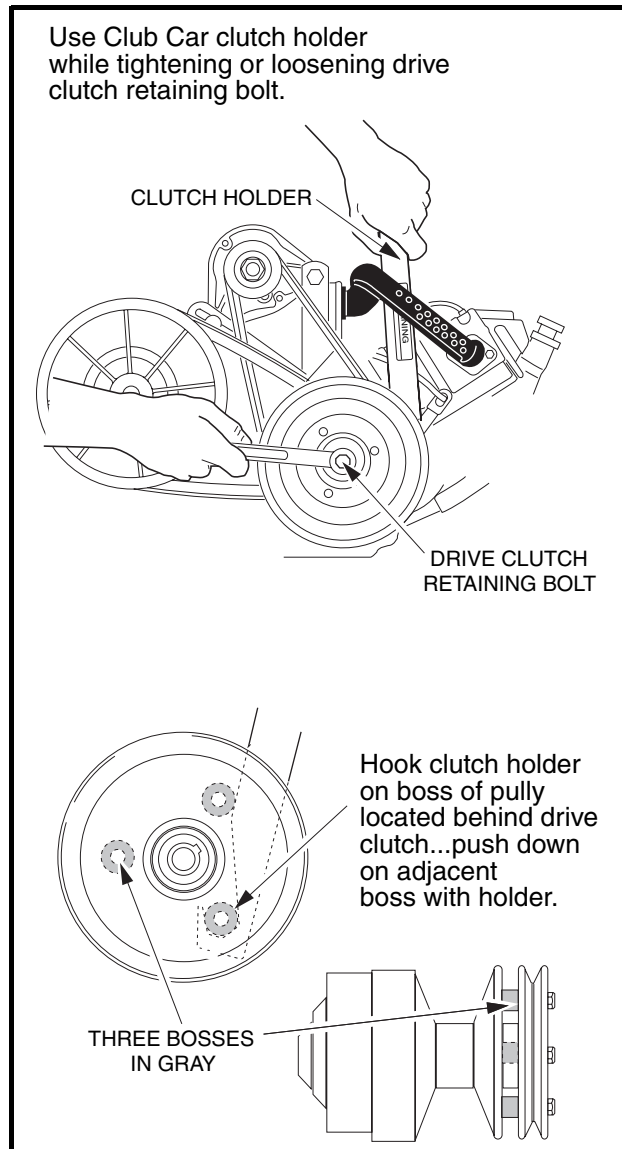
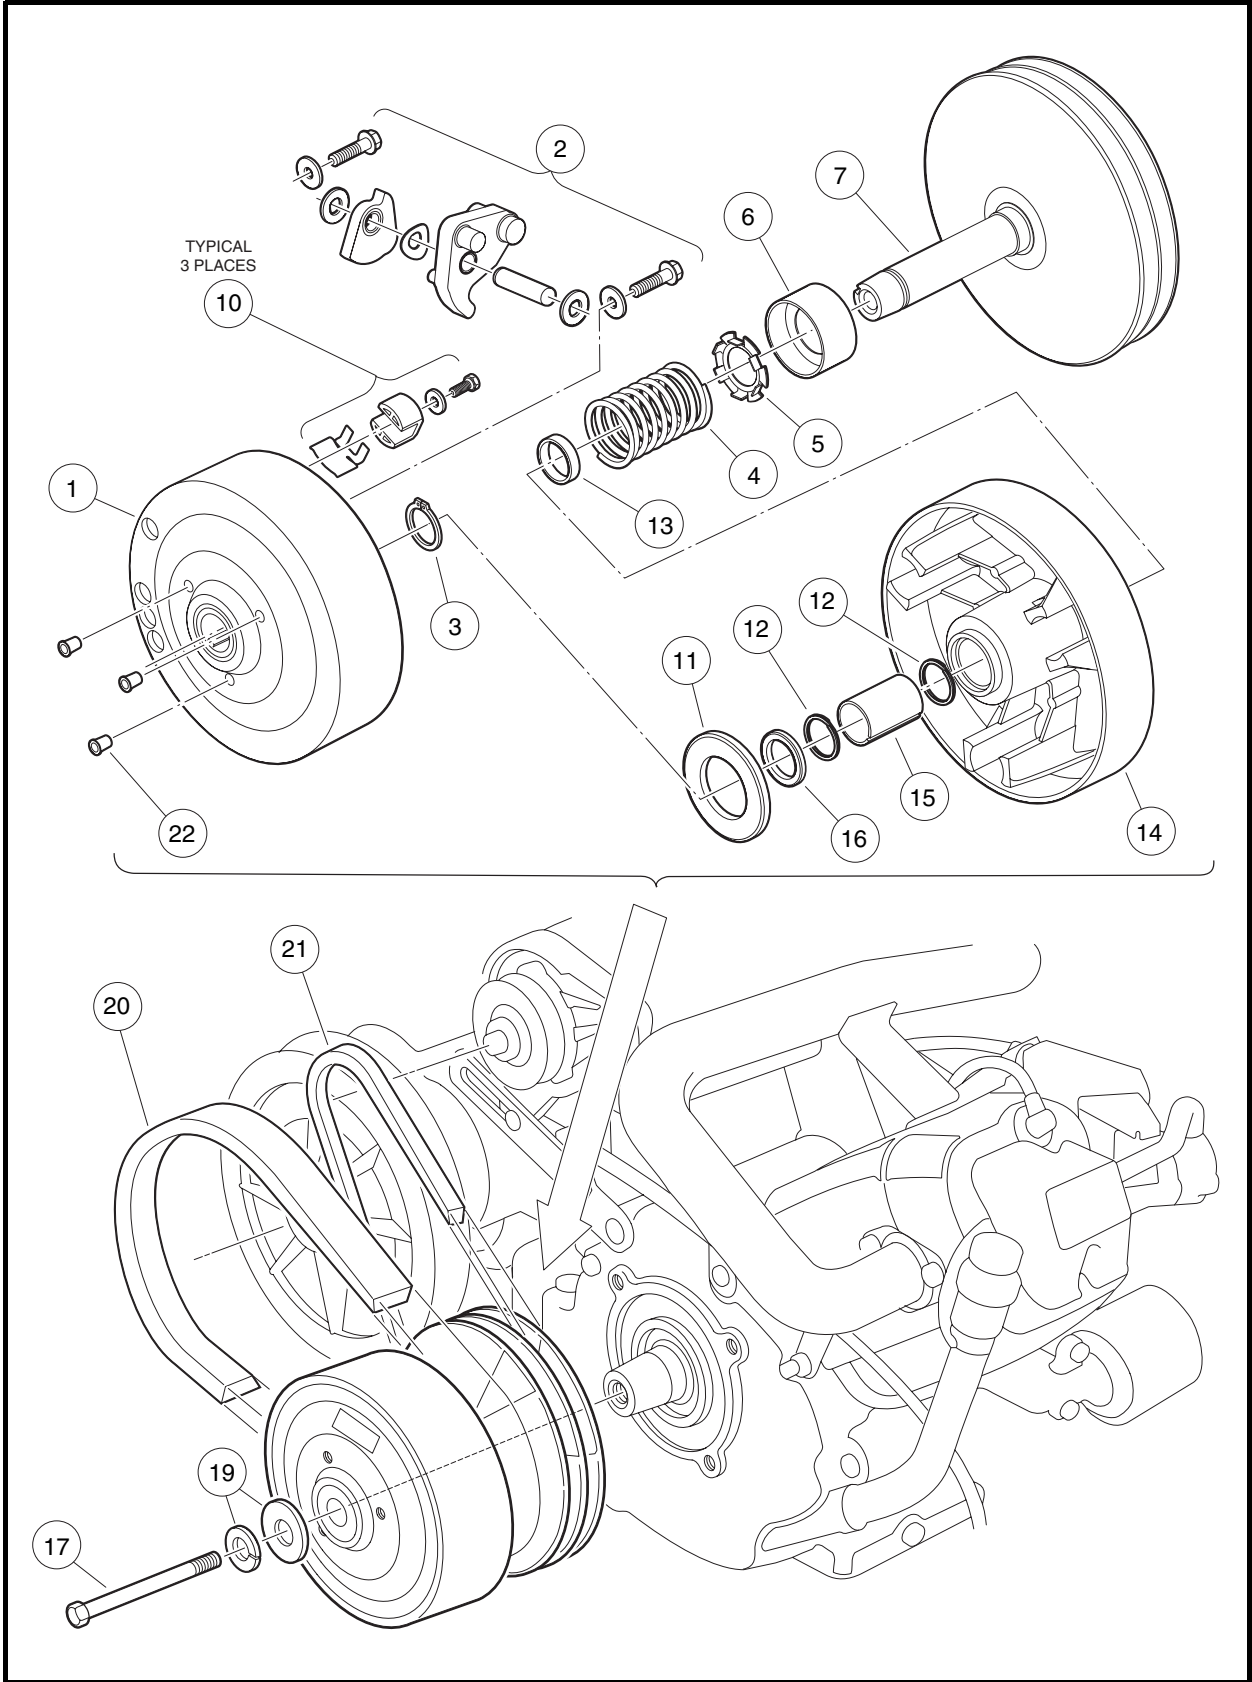
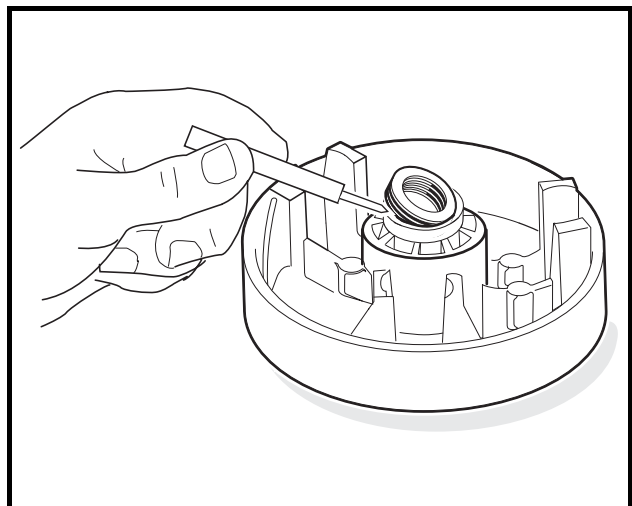

Figure 17-3 Loosen Retaining Bolt
Figure 17-5 Drive Clutch Assembly
Figure 17-13 Spiral Back-up Rings
3. If cleaning the driven clutch does not solve the problem, disassemble and thoroughly clean all parts of the drive clutch. Be sure to clean the plastic drive buttons (10) (**Figure 17-5, Page 17-6**).
4. Remove the drive clutch retaining bolts (17) and mounting washers (19) (Figure 17-5, Page 17-6) See also Figure 17-3, Page 17-4. See following NOTE.
- Use only a dry cloth to lightly wipe the shaft of the fixed face assembly (7) (Figure 17-5, Page 17-6). Do not use a brush or steel wool. These will damage the surface of the shaft.
2. Remove the drive clutch hub (1) (Figure 17-5, Page 17-6):
- 2.1. Remove the three plugs (22) from the clutch puller attachment holes (Figure 17-5, Page 17-6).
3. Remove the thrust washer (11) from the moveable face (14) (Figure 17-5, Page 17-6).
6. Remove the retaining ring (3) from the shaft of the fixed face assembly (7) and slide the moveable face (14) off the shaft (**Figure 17-5, Page 17-6**). See following NOTE.
NOTE: If the moveable face is removed from the hub of the fixed face, the spiral back-up rings (12) must be replaced with new ones (**Figure 17-5, Page 17-6**).
7. Remove the spacer (16), and spring (4) and retainer (5). The spring retainer can be removed from the spring if necessary (**Figure 17-5, Page 17-6**).
9. Use a scribe or small pick to remove the spiral backup rings (12) from each end of the bore in the fixed face assembly (**Figure 17-5, Page 17-6**). See also **Figure 17-13, Page 17-9**. Discard the rings.
1. Inspect the idler bearing (6) for smooth rotation or seal damage (**Figure 17-5, Page 17-6**). See following NOTE.
2. Inspect the bore of the moveable face assembly (14) for scarring or wear. The moveable face assembly must be replaced if the bore is worn to a diameter of 0.883 inch (22.4 mm) or larger (**Figure 17-5, Page 17-6**).
3. Inspect the steel shaft (7) on the fixed face assembly. There should be no measurable wear anywhere on the shaft. Replace the shaft if it is worn, scratched, or damaged.
4. Inspect the thrust washer (11) for wear. If it is worn more than 0.030 inch (0.76 mm), turn it over or replace it with a new one.
5. Inspect the primary weights (2) and the hub casting for wear. If the primary weights show signs they are touching the casting, the tips of the weights have worn beyond specification and they must be replaced.
1. Press idler bearing (6) onto the shaft of the fixed face assembly (7). Press on the inner race of the bearing only. Make sure that the cup side of bearing is facing away from the fixed face (**Figure 17-5, Page 17-6**).
2. Using needle nose pliers, install the spring retainer (5) onto the spring (4).
3. Install the spring (4) and retainer (5) into the cup of the idler bearing (6).
4. Install the spacer (13) onto the shaft of the fixed face.
5. Install a new spiral backup ring (12) in each end of the bore of the moveable face assembly (14).
6. Install the moveable face assembly (14) onto the shaft of the fixed face assembly (7).
- 6.2. Install the retaining ring (3) (**Figure 17-5, Page 17-6**).
12. Install the 1/4-20 bolts and washers (2) and tighten them to 10 ft-lb (13 N·m) (**Figure 17-5, Page 17-6**).
16. Install the thrust washer (11) onto the moveable face assembly (**Figure 17-5, Page 17-6**).
17. Install the hub assembly (8) on the moveable face assembly and align the match marks made before disassembling the clutch. Press the hub assembly on by hand.
18. Replace the three plastic plugs (22) into the hole protectors (**Figure 17-5, Page 17-6**).
1. Place the drive clutch assembly on the crankshaft taper. Position the mounting washer (with the green side facing out) on the bolt (17) and start the bolt into the crankshaft (**Figure 17-5, Page 17-6**). See following **NOTE**.
2. Tighten the drive clutch retaining bolt (17) to 25 ft-lb (33.9 N·m) (**Figure 17-5, Page 17-6**).